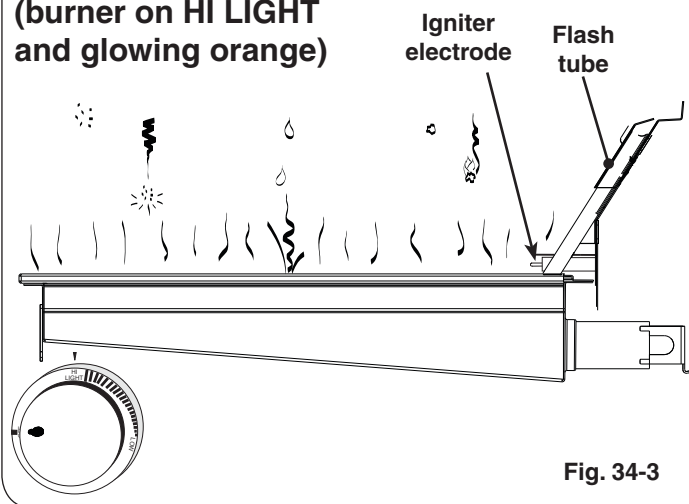

Fig. 34-3
- **DO NOT** place food on the cooking grid until the IR burner glows orange (Fig. 34-3). Drippings are heated and evaporate instead of sticking to and impairing burner function.